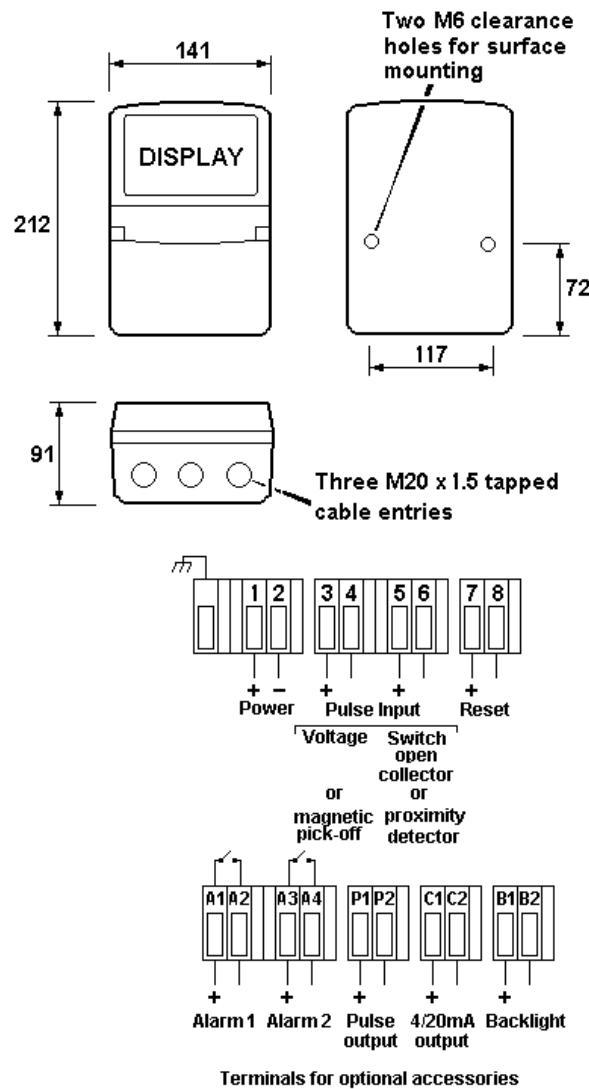

Fig 4 Dimensions and terminal connections
- d. Connect the field wiring to the instrument terminals as shown in Fig 4.